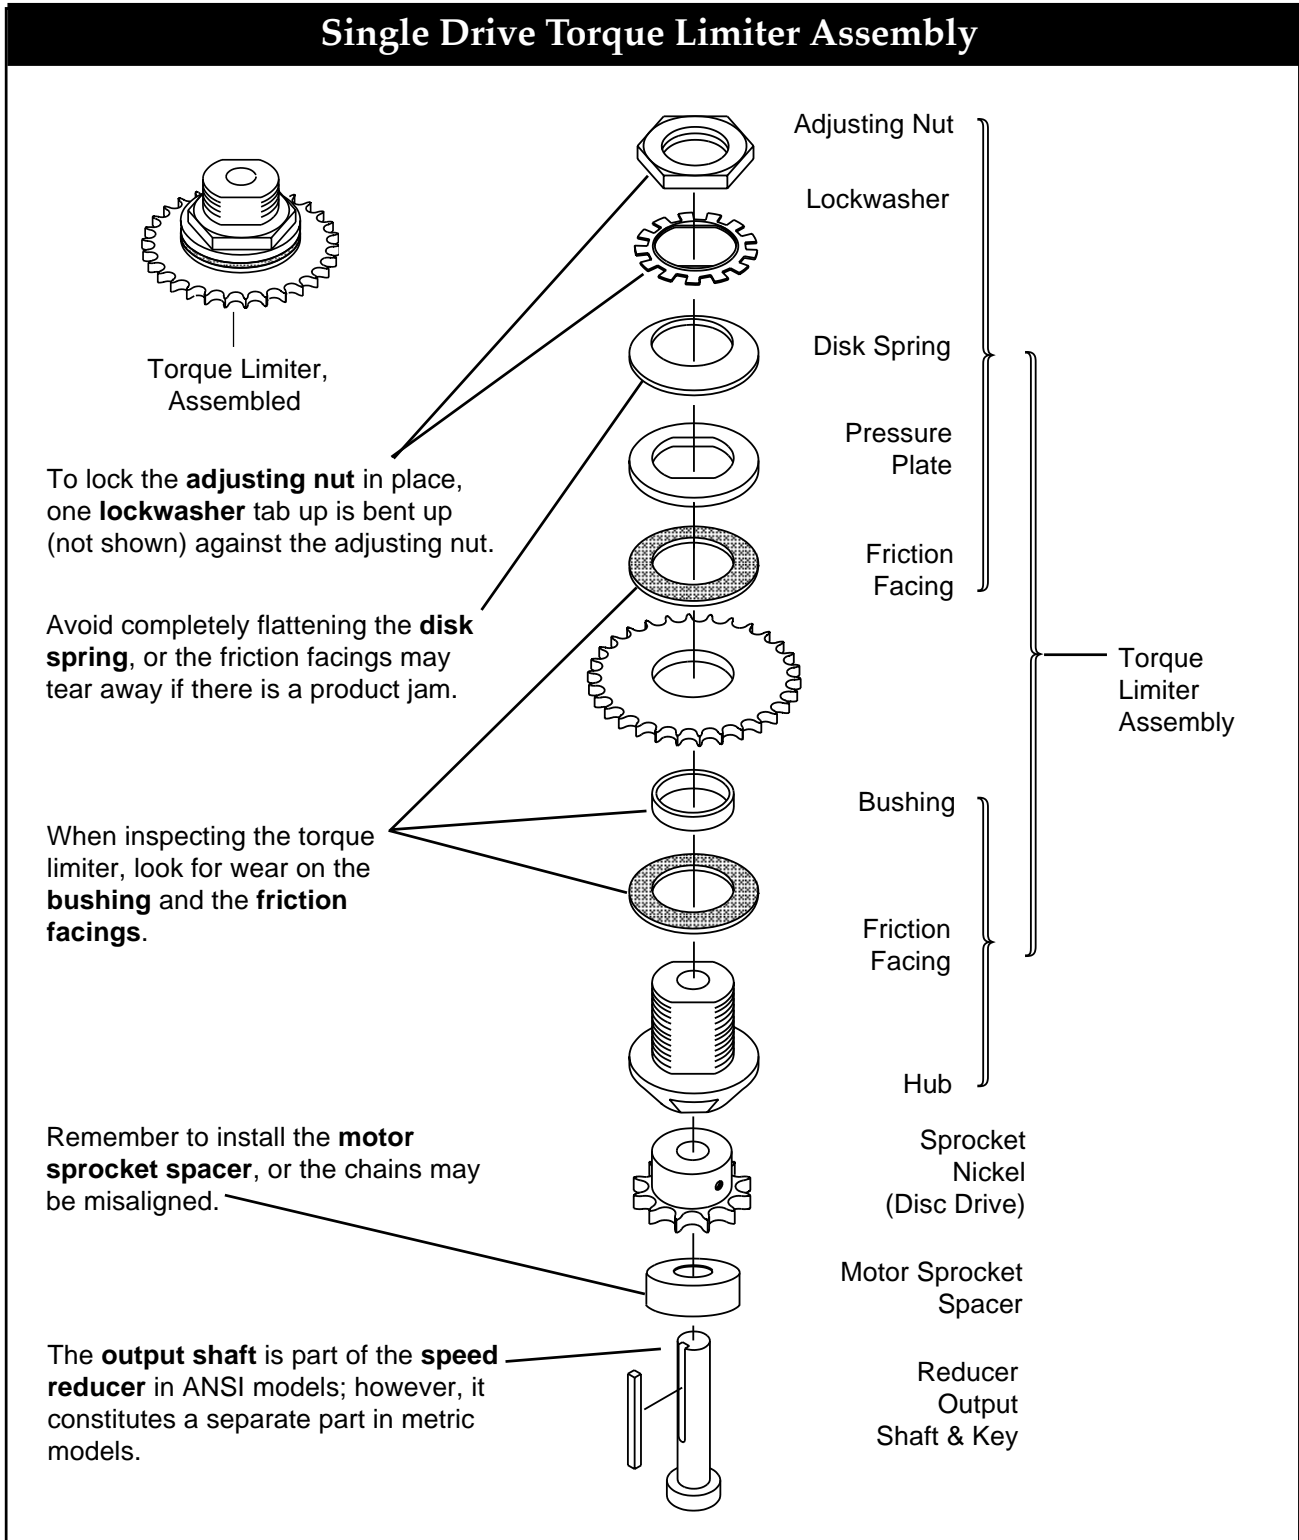

Figure 5-1. Torque Limiter Assembly (Nickel Plated)
Step 3—Remove Torque Limiter. Remove and disassemble torque limiter. (See Figure 5-1) Inspect and replace any broken or worn parts. Observe order of components.
Step 4—Assemble and Install the Torque Limiter. Clean parts before re-assembly. Assemble the torque limiter (as shown in Figure 5-1.) Tighten adjusting nut hand tight. Install the torque limiter.
Step 6—Adjust Torque Limiter. Tighten the adjusting nut (see Figure 5-1) down until the bowl turns when power is applied with minimum slippage. Do not completely flatten the disk spring. Also do not lock the adjusting nut yet. You will lock the adjusting nut after turning on the motor. Some slippage must occur to prevent damage, however, there should be no slippage if the bowl is at maximum rotation.
Step 4—Reducer Installation. Remove the torque limiter and reducer mounting brackets from the old reducer and install them on the new reducer. Slide the torque limiter assembly down onto the reducer output shaft until it bottoms out against the roll pin (see Figure 5-1). Tighten setscrew.
Step 5—Assemble Output Shaft. Unlike the ANSI speed reducer, which includes an integral output shaft, the output shaft on the metric speed reducer comes as a separate kit. If replacement is required, clean both contact surfaces before assembly and apply any appropriate anti-seize compound to avoid oxidation (rust) and possible seizing of parts. Slide the torque limiter assembly down onto the reducer output shaft until it bottoms out against the roll pin (see Figure 5-1). Tighten setscrew. The speed reducer used in the metric FTF-30-RD feeder is lubricated for life with synthetic lubricant and requires no filling before use.